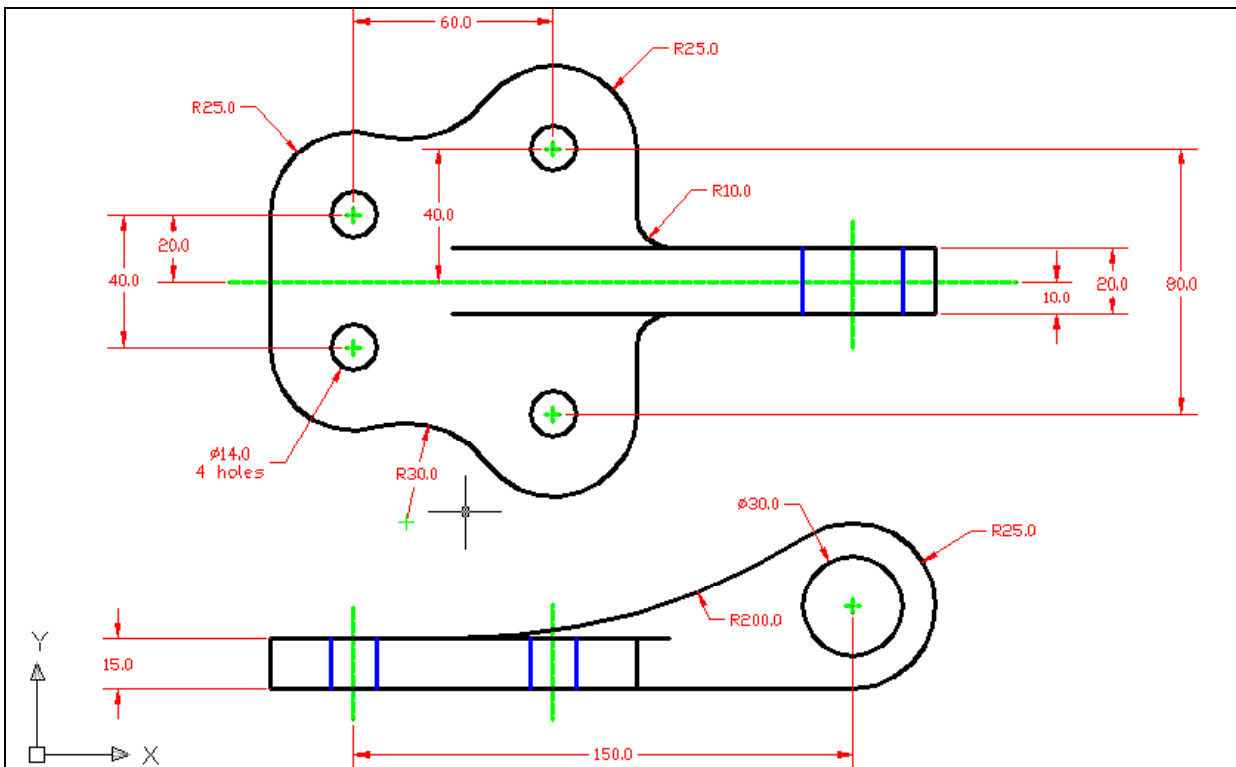

Figure 11.09 – The Bracket Problem with Dimensions
*** World Class CAD Challenge 02-22 * - Create a New file using the Metric template, and draw the 66 entities shown in Figure 11.09 in 5 minutes 30 seconds. Continue this drill four times, each time completing the drawing under 5 minutes 30 seconds to maintain your World Class ranking.**